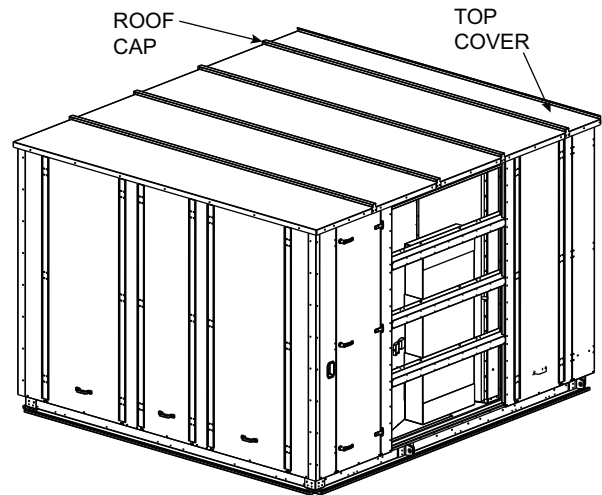

Fig. 38 — Roof Cap and Top Cover Removal
7. Remove the roof cap, top cover and L brackets from the filter end of the return section. Save these parts for later installation. See Fig. 38 and 39.